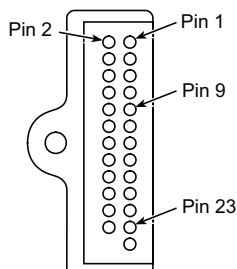

Figure 2-1 External Test Connector (J3)
2. Using a test jumper (part number 134646), a wire, or a low-value resistor (1k5Ω or less), connect pin 9 to pin 23 on the external test connector. See Figure 2-1 below. Take care not to short any pins adjacent to pin 9 or 23 as this may result in a blown fuse.